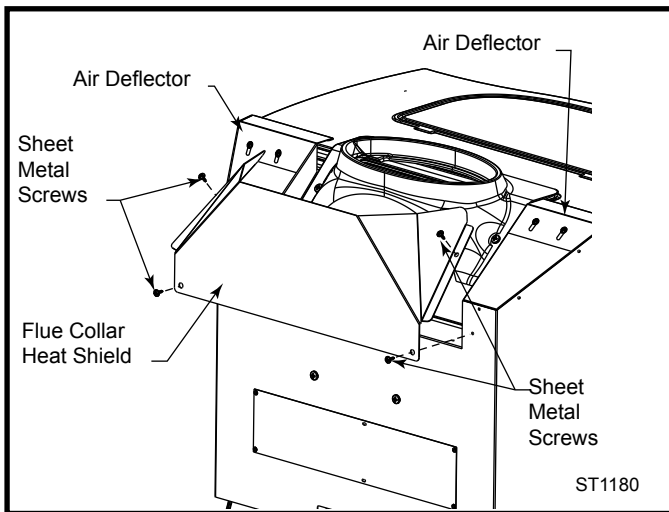

Fig. 23 Install flue collar heat shield.
If you have the optional fan kit, you may decide to adjust the air deflector to blow heat across the top of your stove. (Fig. 23) Loosen the two (2) screws on each side and raise or lower the deflector. After adjustment, tighten the screws.
WARNING: The flue collar heat shield must be attached to the Defiant® stove. Use four #10 sheet metal screws supplied to secure the flue collar heat shield to the rear of the stove. (Fig. 23)